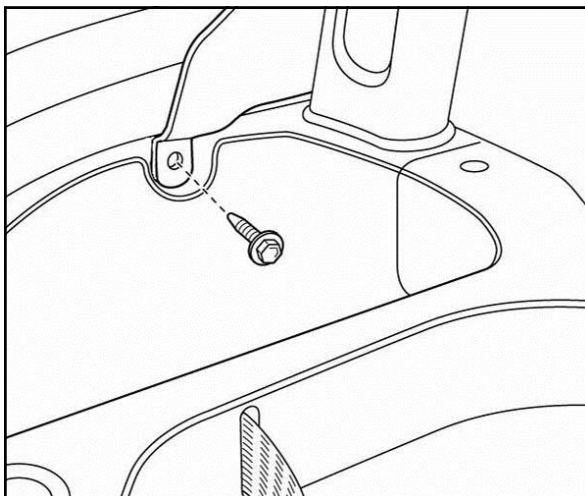

Figure 13: Re-Install Seatback
- 3.4. Reinstall seatback: Guide the seat back into position and fasten with the original fasteners making sure that they first pass through the hole in the mounting tab on the rear panel as shown (Figure 13).